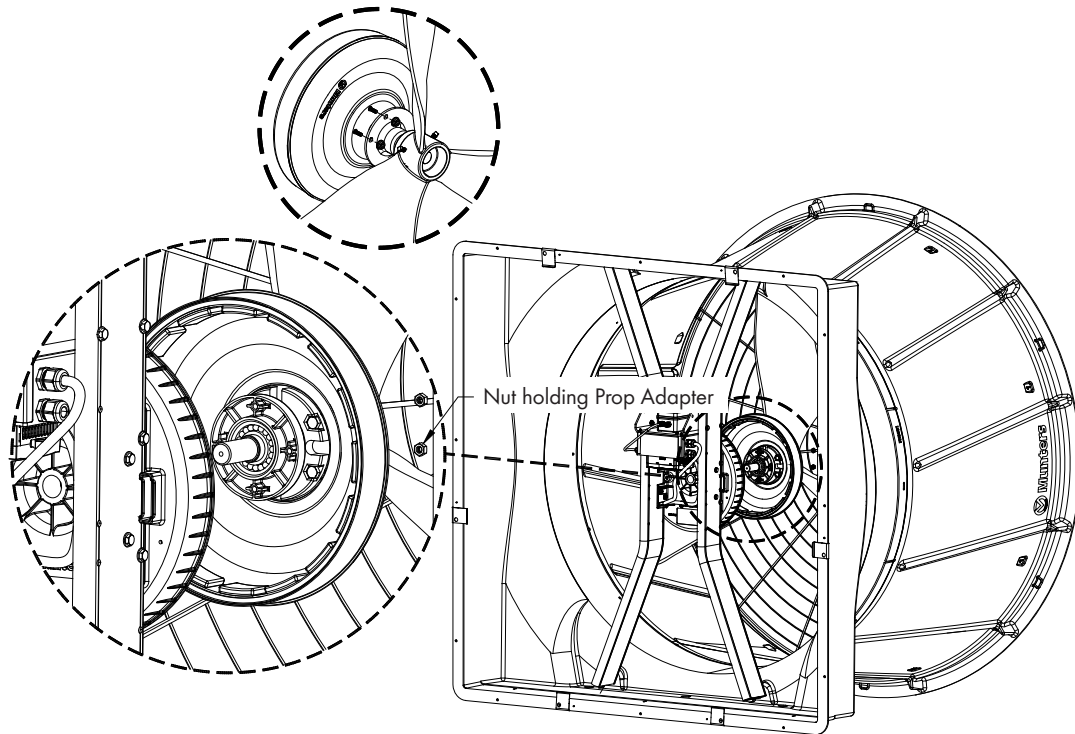

Figure 21
Secure the Hub and New Rotor to the Prop Adapter using the (4) Nuts removed in Step 6 and tighten to 200 in-lbs. [23 N-m] of torque. See Figure 21.